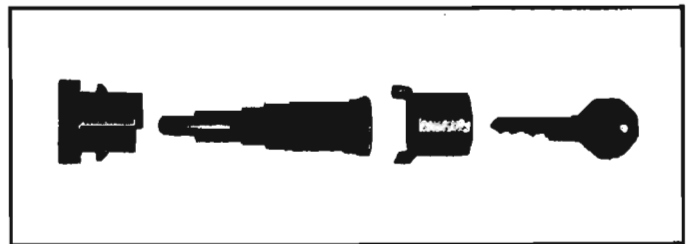

Fig. 10-54a—Door Push Button Shaft and Lock Assembly
- a. Bend the ears of the push button cap sufficiently to disengage cap from cylinder housing. Disassemble cap, cylinder housing and lock cylinder. Figure 10-54a shows the lock disassembled.